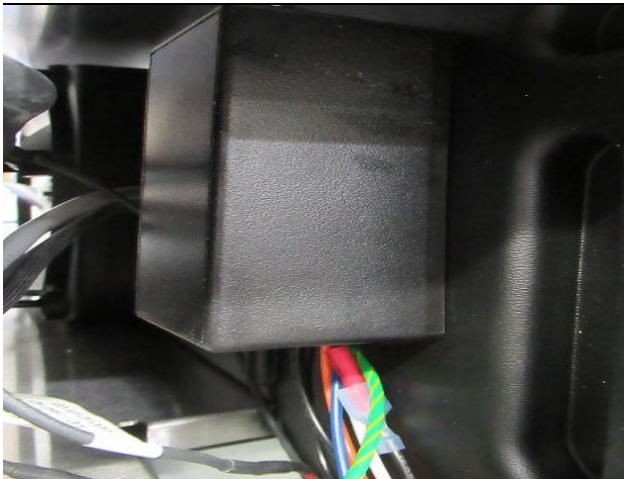

Figure 2: Mount the new assembly
7. Remove the old assembly with a 5/16-inch socket wrench and a #2 Phillips screwdriver. Mount the new assembly through the same holes which held the old assembly. *Figure 2.*